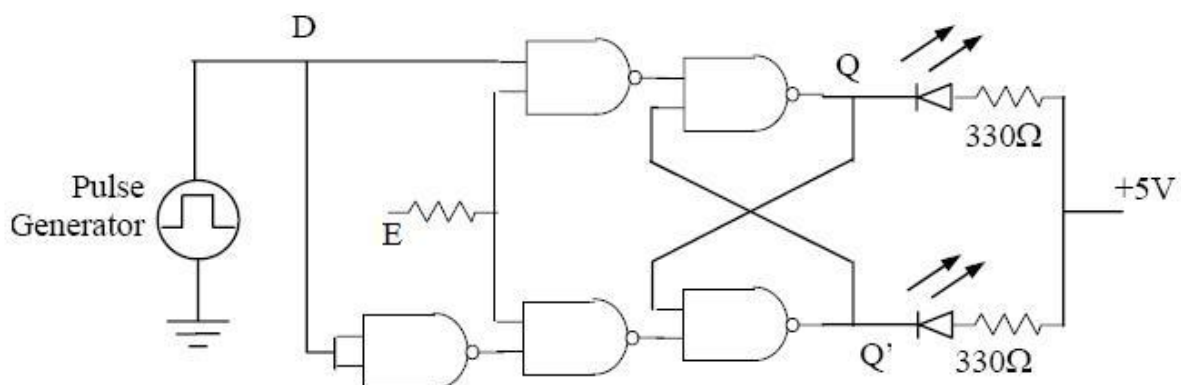

Fig. 6.2 Logic circuit
**P3.1** Connect the D input of the logic circuit shown in Fig. 6.2 to the pulse generator and set it at 1kHz. Connect the enable input (node E) to a logic high (+5V) through a 1k  $\Omega$  resistor. Observe the output; obtain the data for the Truth-table 6.1.
Table 6.1 Truth-table for Fig. 6.2